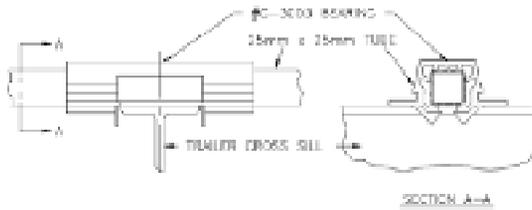

Figure 6
2. Check cross-member flange width for proper bearing fit (Figure 6). The bearings are designed to fit flanges smaller than 62mm. If the surface is wider than 62mm, standard bearings cannot mount on the top. The bearings can be specially milled to fit a 100mm maximum.